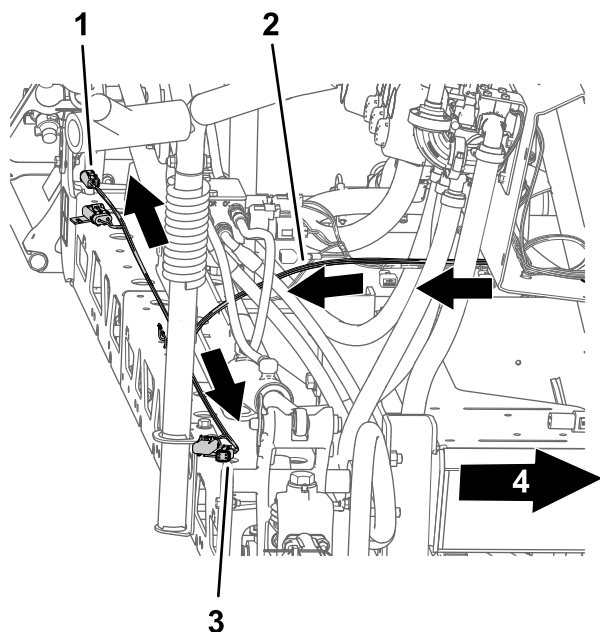

Figure 45
- Route the wire harness of the kit to the center spray section (Figure 45) as follows: